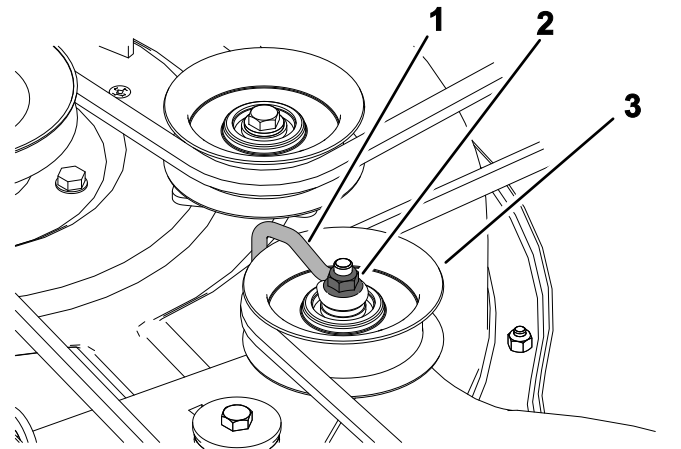

Figure 51
5. For stamped decks, loosen the nut securing the wire form to the idler pulley (Figure 51).
9. For stamped decks, tighten the nut securing the wire form to the idler pulley (Figure 51).
- Note:** Position the wireform against the idler arm as shown in Figure 51.